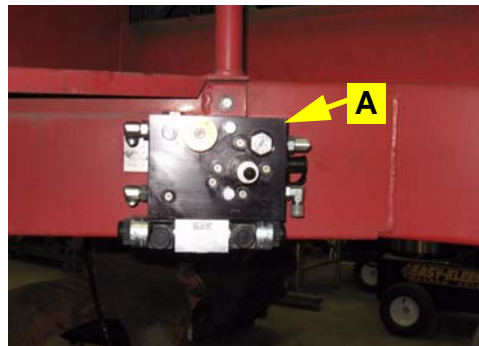

Figure 2c: Mounted automated steering block
- c. Use the provided mounting hardware in group **E** to attach the automated steering block, as prepared in **step 1**, to the mounting bracket **D** (Figure 2c).